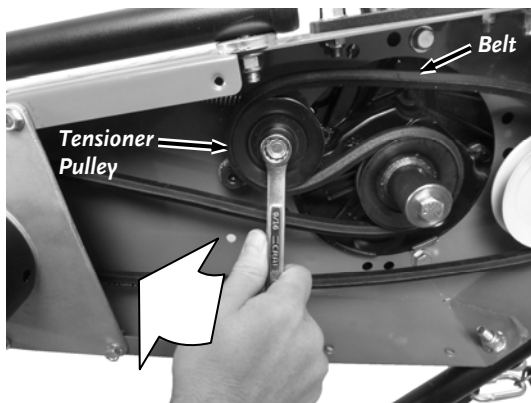

Figure 34
5. Use a 9/16" Wrench on the hardware and pull the Tensioner Pulley back to release the Belt from the Pulley (**Figure 34**).